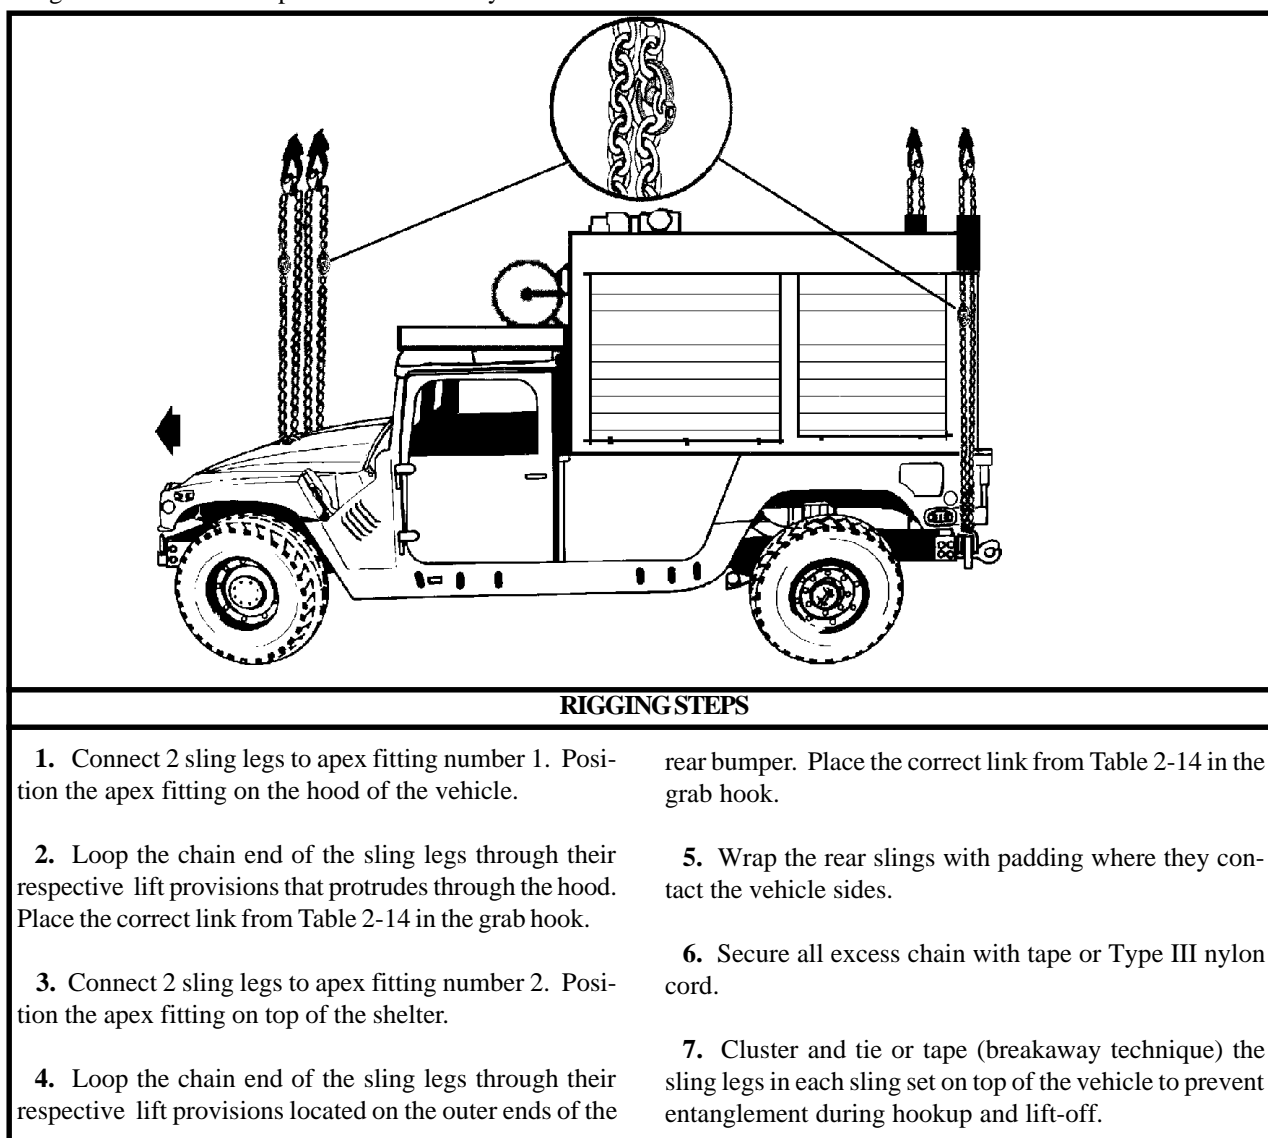

Figure 2-13. M1097 (HMMWV) With Contact Maintenance Truck, Heavy (CMTH)
(2) Rigging. Rig the load according to the steps in Figure 2-13.
(3) Hookup. The hookup team stands on top of the cargo bed cover. The static wand person discharges the static electricity with the static wand. The forward hookup person places apex fitting 1 onto the forward cargo hook. The aft hookup person places apex fitting 2 onto the aft cargo hook. The hookup team then carefully dismounts